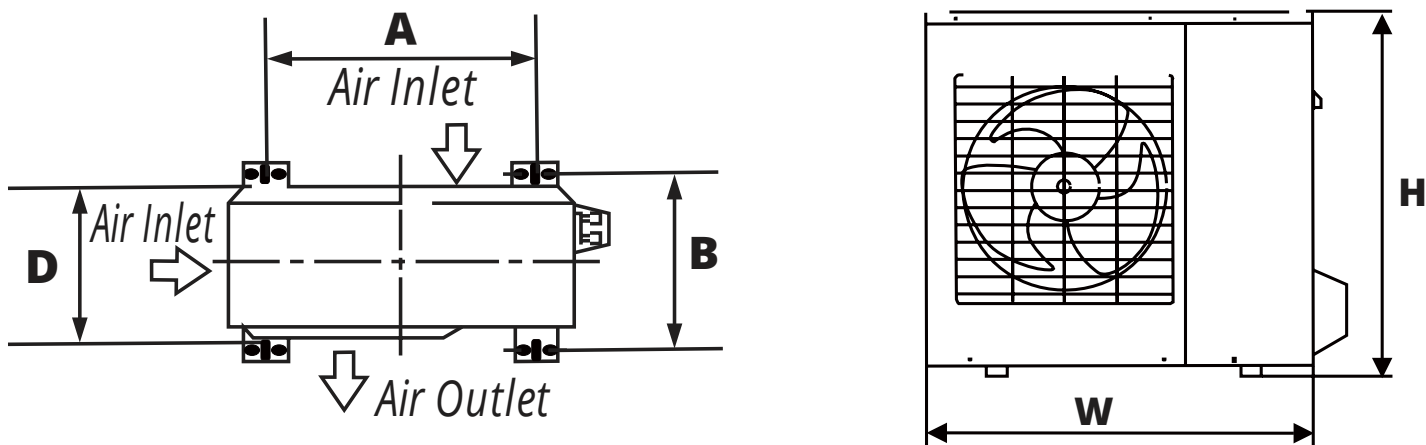

**Fig. 5.4**
**If the drain joint comes with a rubber seal** (see **Fig. 5.4 - A**), do the following:
**If the drain joint doesn't come with a rubber seal** (see **Fig. 5.4 - B**), do the following: